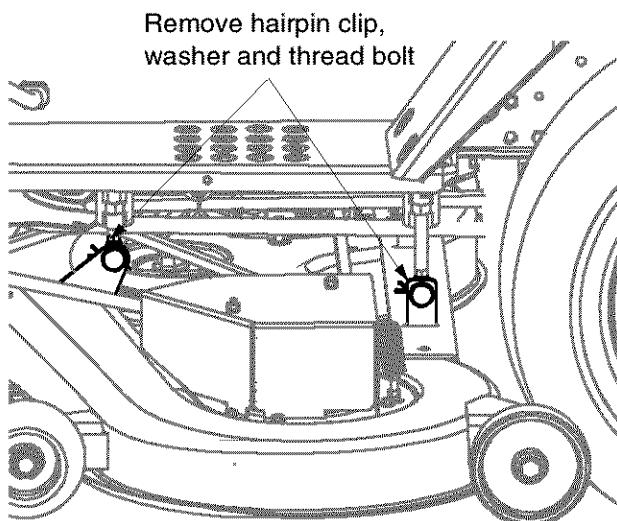

Figure 17
- Make certain the PTO is disengaged. Remove hairpin clip and washer from the weld bolt. See Figure 17. Thread eyebolt up or down the link as necessary, and reassemble.